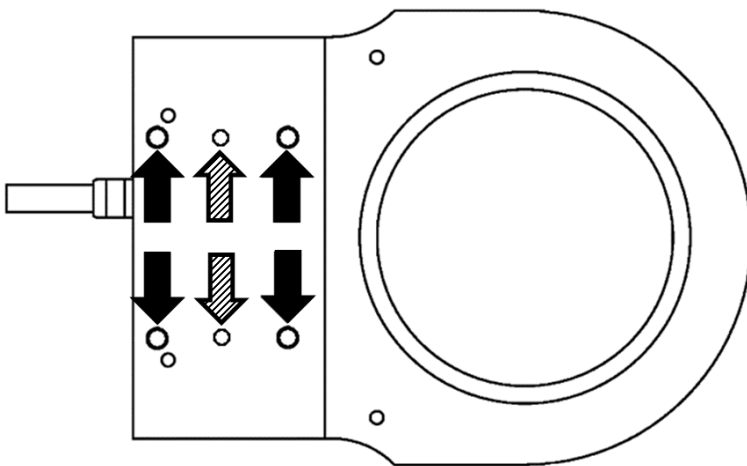

Figure 3: P-725 (example view): Mounting holes (black arrows) and locating holes (hatched arrows) in the base body of the P-725
2. Optional: Align the P-725 with the microscope using suitable locating pins and the locating holes in the base body of the P-725 (see Figure 3 above).
3. Affix the P-725 to the microscope using four suitable M2.5 screws and the mounting holes in the base body of the P-725 (see Figure 3 above).